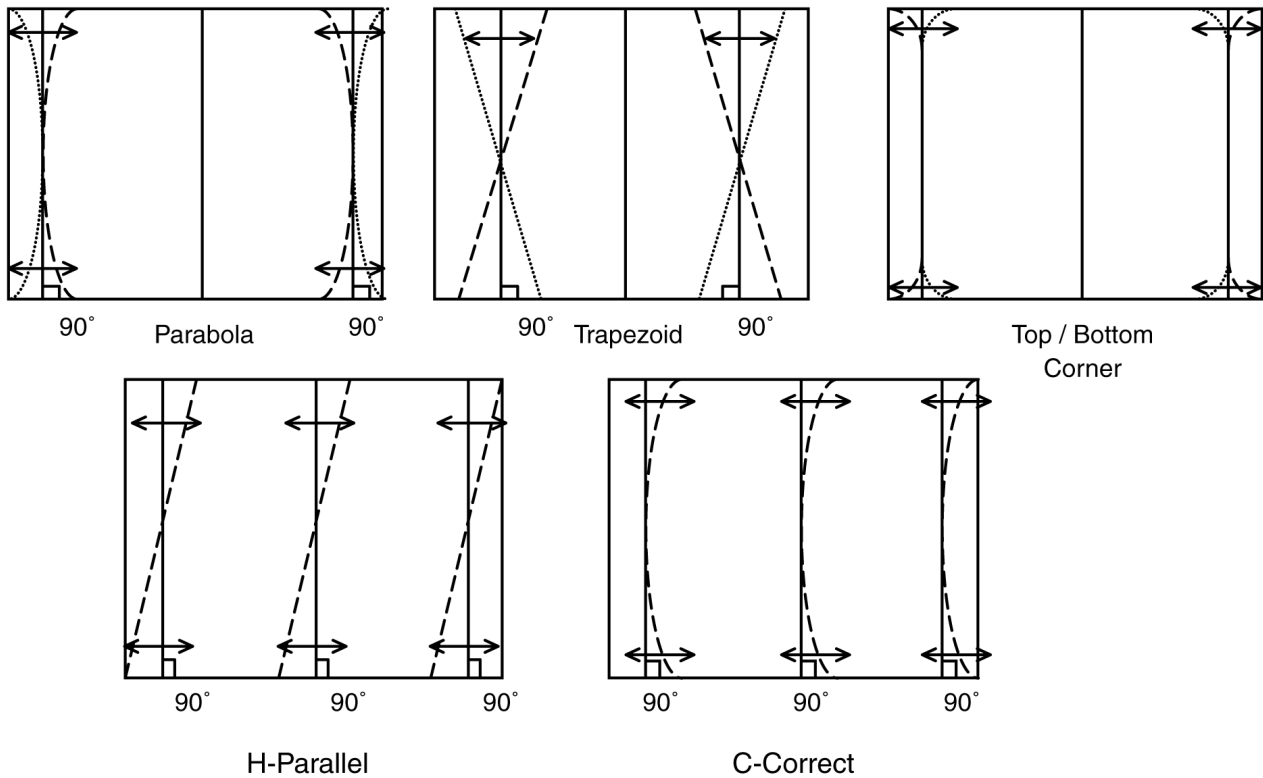

Fig. 19
2. Adjust V-AMP (60P / 4:3) so that B, D (Fig. 19) is 1 ± 0.1 .